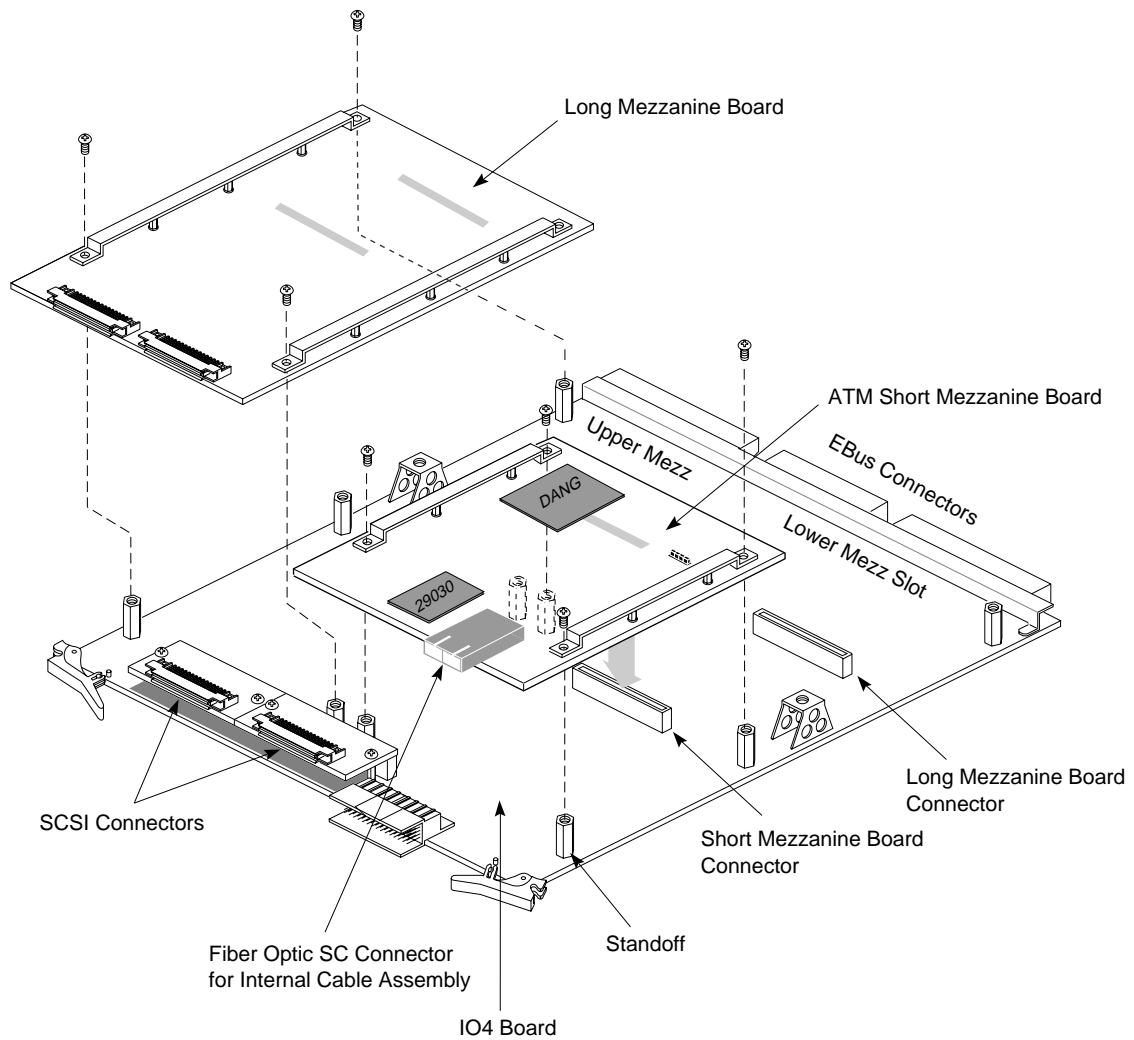

Figure 2-9 IO4 Board with an ATM Mezzanine Board
2. Lay the board on a flat antistatic surface so that the component side faces up and the SCSI connectors face toward you, as illustrated in Figure 2-9.
3. Locate the selected mezzanine slot (upper or lower) and remove the four screws from the standoffs, as illustrated in Figure 2-9. If the screws are missing, this is not a problem.
4. Position the IRIS ATM board onto the selected slot so that the connector on the bottom of the board matches the receptacle on the IO4 board and the standoffs match the ATM board's holes. Figure 2-9 illustrates the correct positioning for the upper and lower slots.